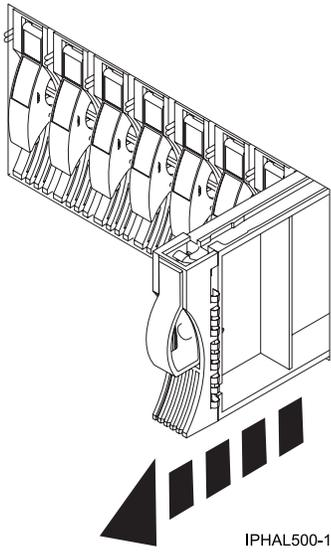

Figure 53. Removing a disk-drive filler from a model or 11D/20
4. Pull the disk-drive filler from the slot. Pull the disk-drive filler from the slot that you want to use, as shown in Figure 53 on page 56.